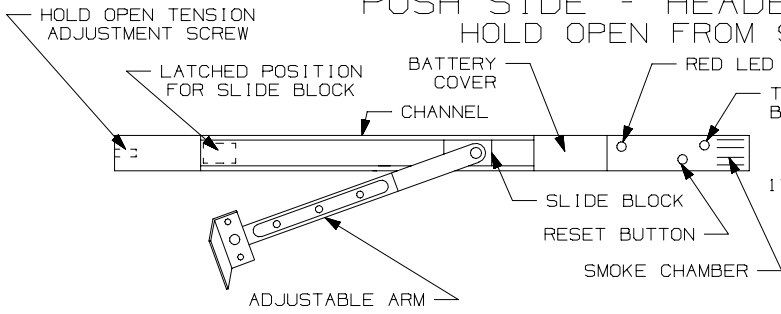

FIGURE 1
1. REMOVE BATTERY COMPARTMENT COVER (SEE FIG. 1) AND INSTALL ALKALINE 9-VOLT BATTERY. THE RED LED SHOULD NOW FLASH ONCE EVERY SECOND AND THE MOTOR WILL RUN BRIEFLY.